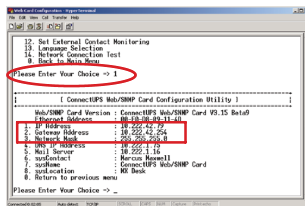

Figure 13. Set ConnectUPS Adapter IP Address
2. Type **1** to display the Set the IP Address, Gateway Address and MIB System Group screen (see Figure 13).